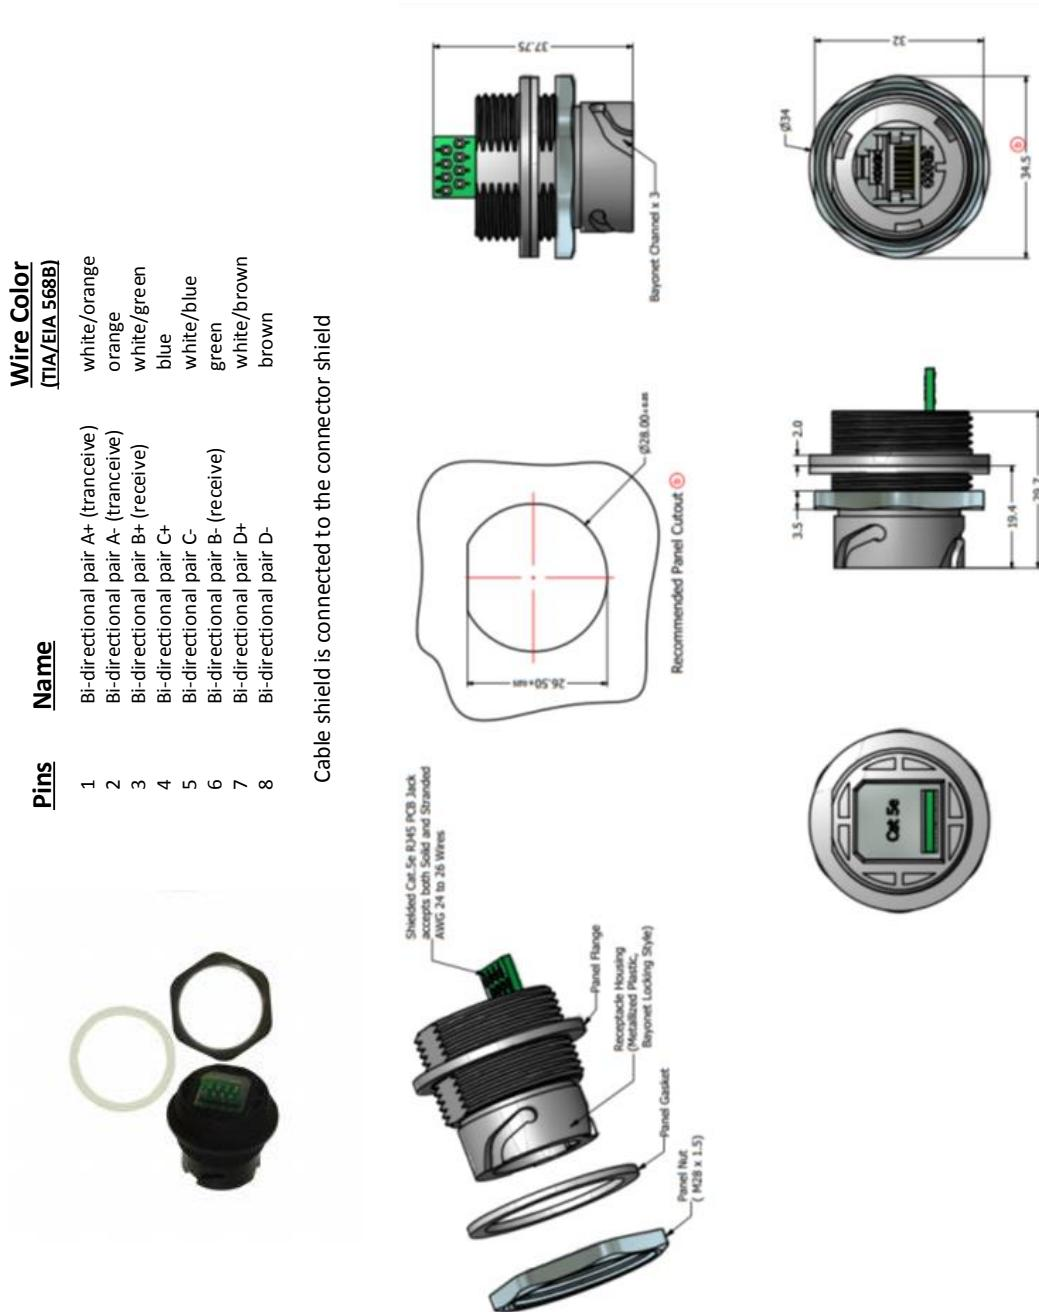

Figure 3.35: SLANF(SH): Shielded Special Ethernet Industrial Connector (Female)
- Picture and pinout: see figure 3.35